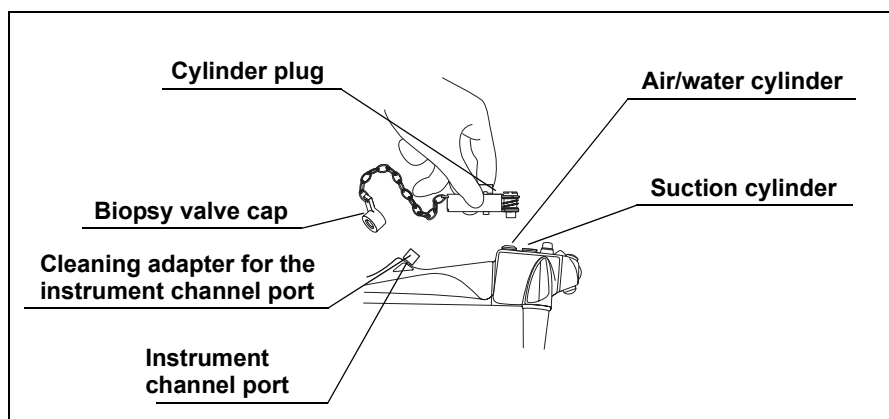

Figure 7.35
1. Attach the channel plug's biopsy valve cap to the cleaning adapter for instrument channel port (see Figure 7.35).
2. Lower the channel plug's cylinder plug onto the air/water and suction cylinders and slide the plug until it stops (see Figure 7.35).
3. Attach the channel plug and the injection tube to the endoscope. Attach the channel plug's biopsy valve cap to the cleaning adapter for instrument channel port (see Figures 7.35 and 7.36).